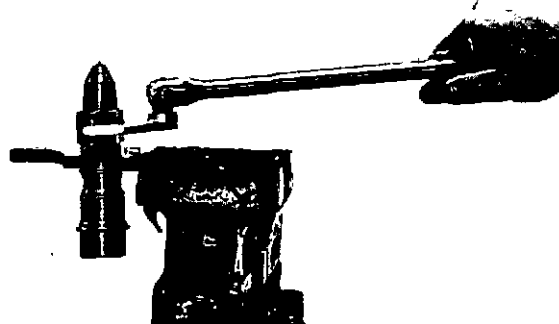

Fig. 2-3, (F60305). Loosen the cup retainer
- f. Use the cup retainer wrench, Part No. ST-995, to **LOOSEN** the cup retainer, Fig. 2-3.